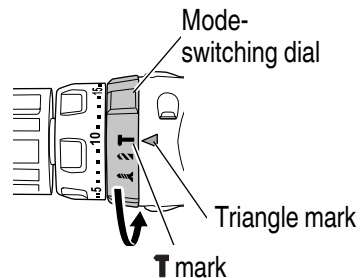

Fig. 16
- (3) When using this unit as an impact drill, align the mode-switching dial hammer mark “T” with the triangle mark on the outer body. (See Fig. 16)